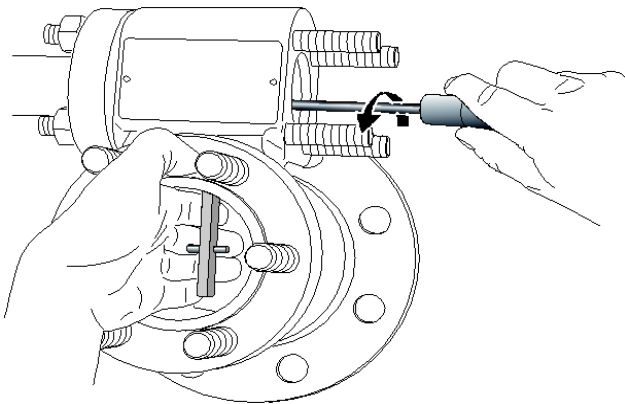

Figure 22
9.3. Removal of 12400 Case and Torque Tube Sub-Assembly (See Figures 22 & 23)
To remove the displacer, the torque arm must be removed. When the two arm screws (133) are loosened, hold the torque arm so as not to damage the torque tube (Figure 22).
- c. Remove the upper flange (146) and blind flange (144).
- d. Lower the torque arm (135) and unhook the displacer (130). A hook-shaped 3 mm steel wire facilitates unhooking and holding of the displacer. The wire may be inserted through the clevis hole.
- e. Remove the two torque arm screws (133) and remove the torque arm (135) from the chamber.
- f. Remove the displacer from its chamber (131) or tank.
- g. Be sure that requirements for instruments installed in explosive areas are strictly followed. Remove screw (106) from connection compartment and unscrew cover (104). Disconnect supply electrical wires and other equipment from terminals (90).
- h. Remove nuts (142) holding the torque tube subassembly and slide the subassembly out of the mechanism chamber.
For installation, reverse the procedure outlined for removing a DLT case and torque tube sub-assembly (section 9.3). It is recommended that new gaskets (143 -149) be used when installation is performed (see figure 22).